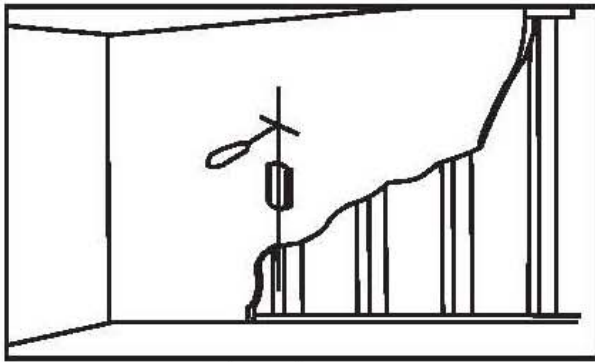

Fig 3b
### Wooden wall(Fig 3b):
Using a awl or nail to make where the nails are located, as shown as fig.3b. Distance between two nails for fixing wall mount must not less than 12". Pre-drill these holes with a 5mm drill bit to at least 80mm in deep hole. Please make sure these holes are level and located at center. Use wall mount as a template to mark the location of other three holes and drill the same holes. Fix the wall mount to the wall with 4 long bolts(O) and washers(Q).